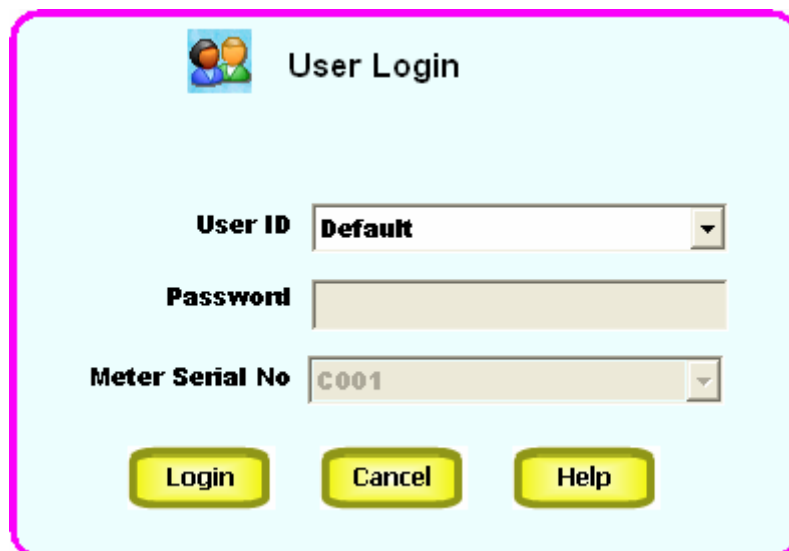

Figure 10 : User Login
6. Once the synchronization is completed, the **User Login** screen appears. (Figure 10) CyberComm accepts all user IDs & passwords configured in the meter. The user IDs available in the meter are listed in the **User ID** drop-down box. You can proceed with the 'Default' user or select a specific user ID and enter password. Click **Login** button to proceed